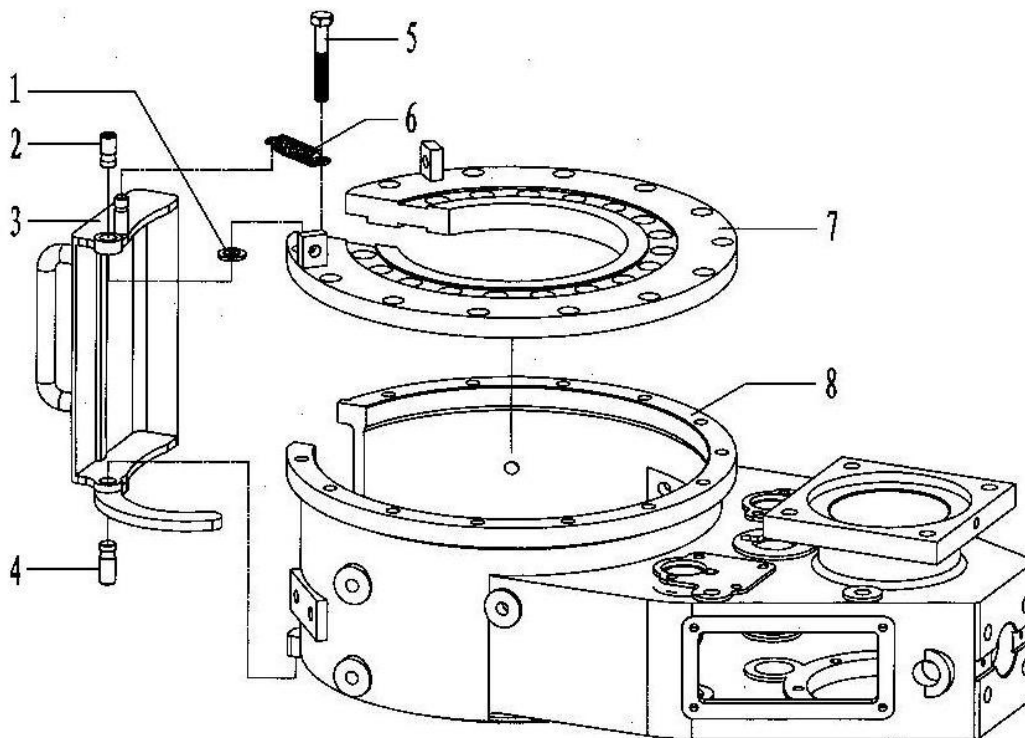

Fig.8-8
8.8 Safety door assembly and parts list (Fig.8-8, Table 8-8)